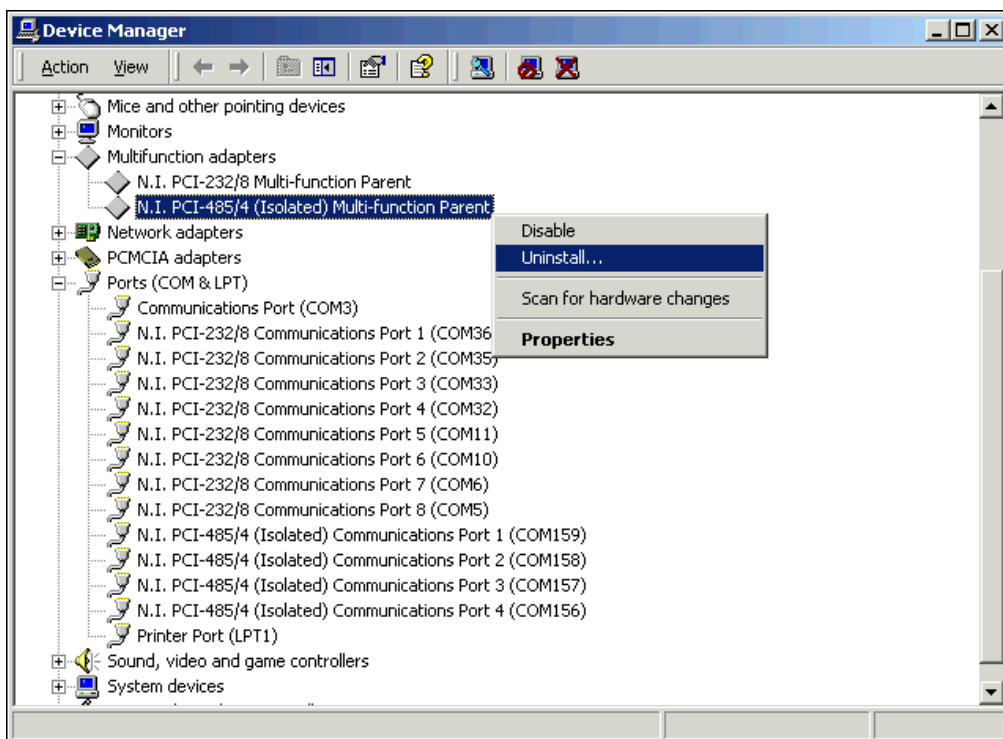

Figure D-1. Selecting an Interface to Uninstall
4. From the **Multi-function adapters** list, right-click the National Instruments interface that was not detected, as shown in Figure D-1. (This example shows a PCI interface.)